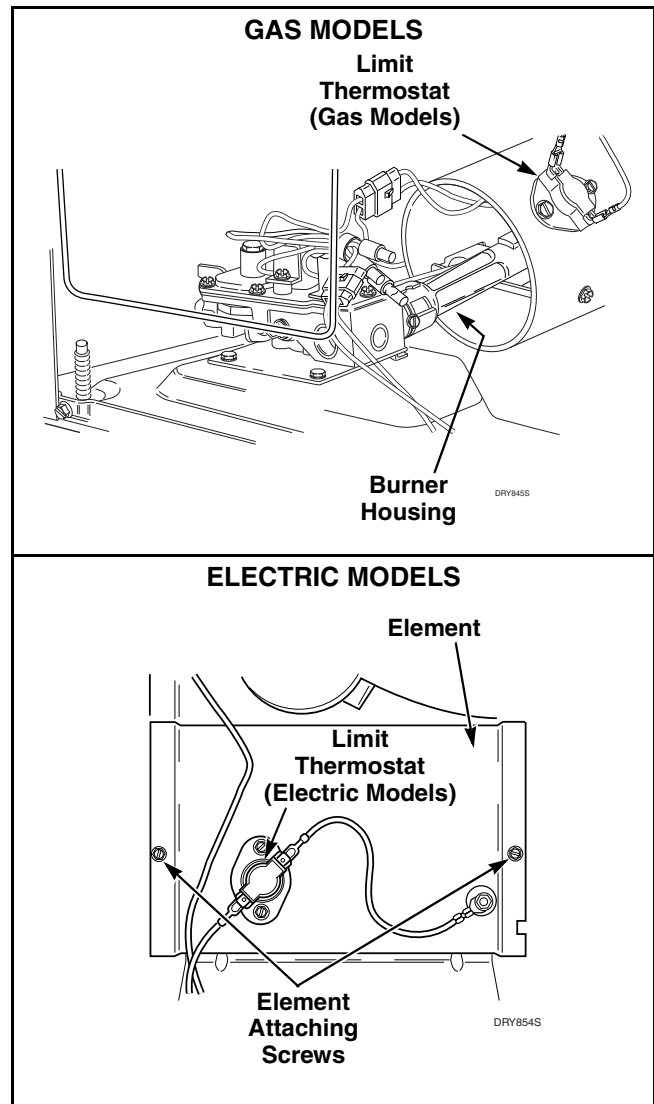

Figure 21
- (3) Remove wires from thermostat.
- (4) Remove screws holding thermostat to burner housing. Refer to *Figure 21*.
- (1) Remove front panel. Refer to *Paragraph 13*.
- (2) Remove wires from thermostat. Refer to *Figure 21*.
- (3) Remove screws holding thermostat to element. Refer to *Figure 21*.